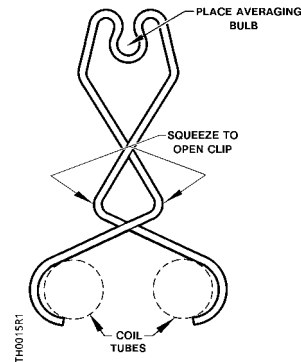

Figure 4. Clips.
- When the bulb is mounted in a unit ventilator, use coil clip No. 356-115 to support the bulb in the air stream close to the coil. See Figures 4 and 5.
- Use a coil clip, Part No. 356-115 (Figures 4 and 5) or a capillary clip, Part No. 357-001 (Figure 4), to support the bulb if there is easy access to the coil.